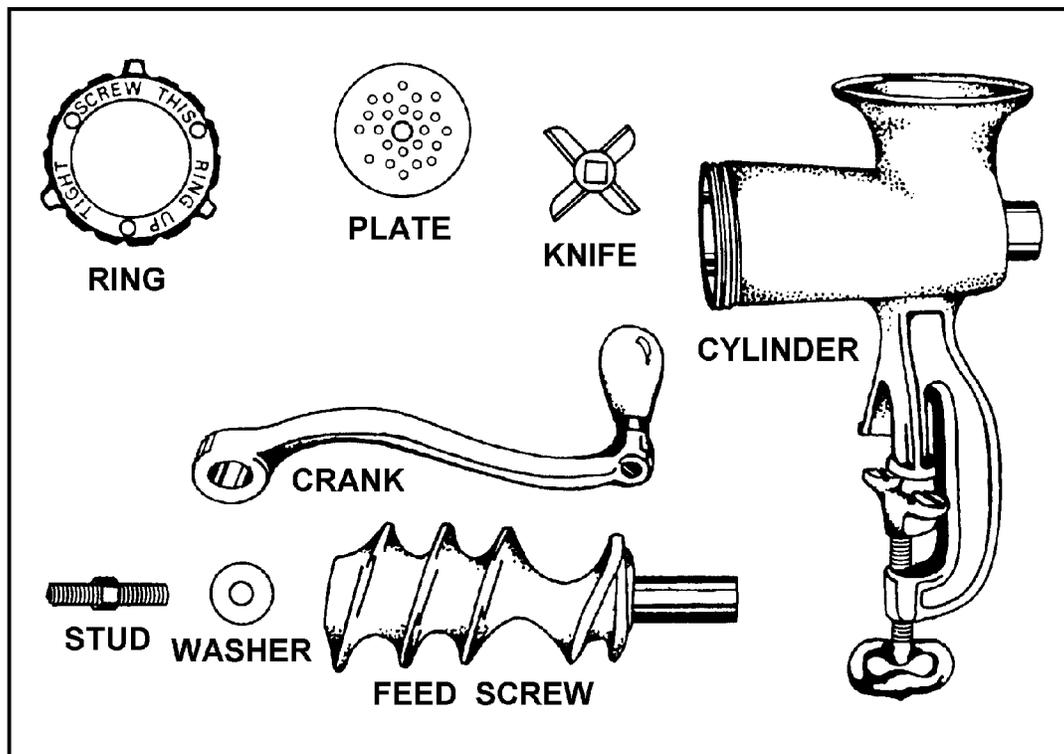

Figure 2-20. Grinder components.
1. Disassemble the grinder. (See Figure 2-20.)